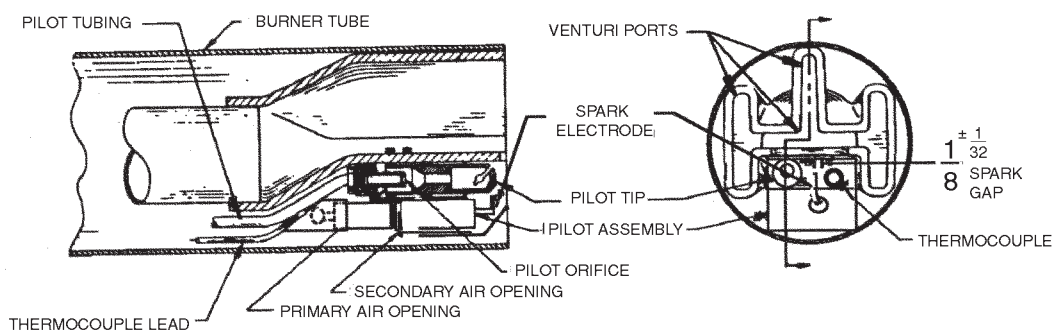

Figure 8: Venturi Casting and Pilot Assembly
- F. Defective ignitor, ignitor wires, spark rod or improper spark gap (See *Figure 8*).